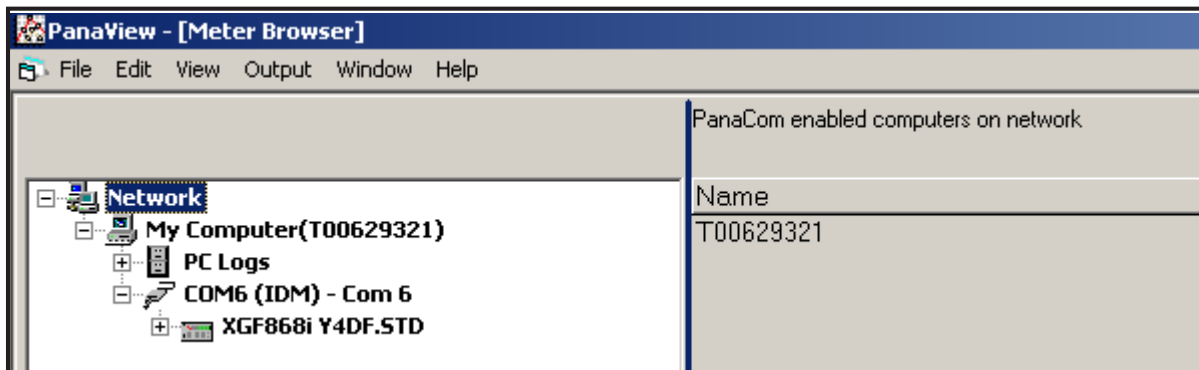

Figure 3: Text Display Window
3. Using the *Window* menu, arrange the open windows in the desired format. For this discussion, Figure 3 below shows the *Text Display* window in its maximized (full-screen) size.
Note: Figure 3 above has been compressed both vertically and horizontally for improved clarity.
5. Before actual data values can be displayed in the text pane, activate one of the following data collection modes (refer to *Figure 3 on page 43*):